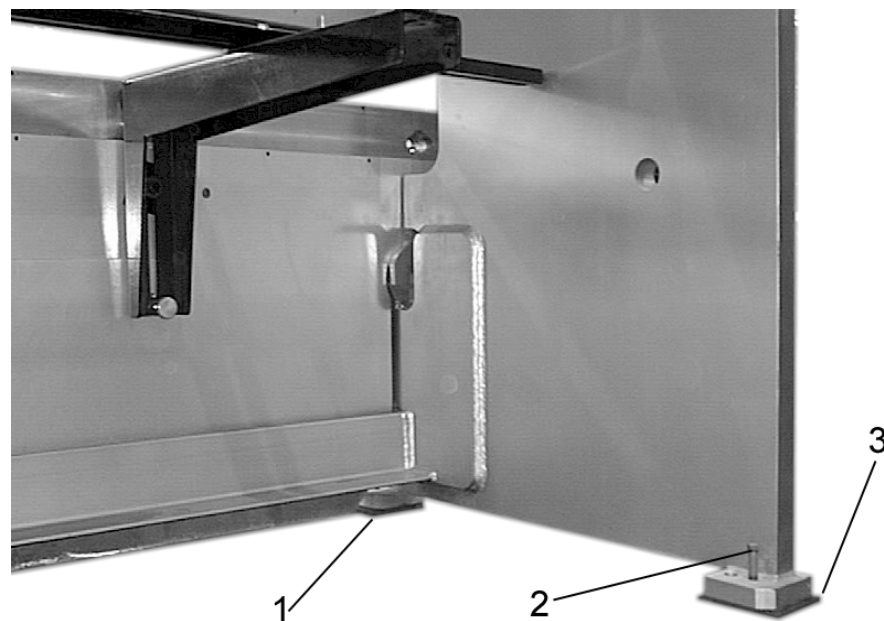

Figure 2: Leveling Plate /Foot Detail
1. Position the $\frac{3}{4}$ " thick pad under each of the front feet (*see Figure 2 Item 1*).
2. Position the $\frac{1}{2}$ " thick pad under each of the rear feet (*see Figure 2 Item 3*).